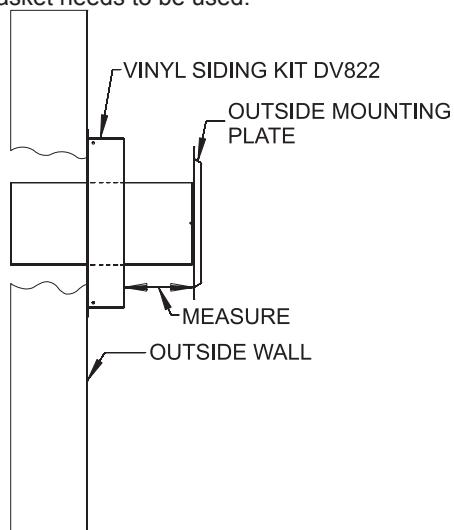

Figure 56
8. Attach the 4" (102mm) diameter flue outlet tube onto the rigid venting system or directly to fireplace. Ensure the 4" (102mm) diameter flue outlet tube is placed as far as possible onto the rigid venting system. Mark the 4" (102mm) diameter flue outlet tube 2 1/2" (64mm) beyond the vinyl siding kit or wall. **See Figure 56.** Remove the 4" (102mm) diameter flue outlet tube from rigid venting system. When installing directly to fireplace, tape gasket needs to be used.